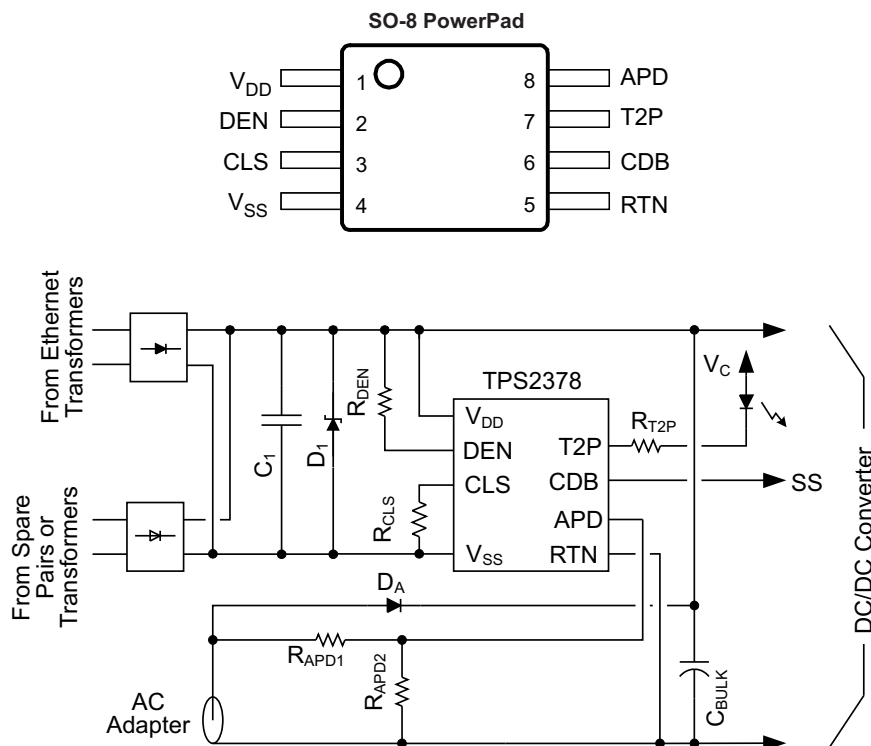

Figure 1. Typical Application
- (1) Stresses beyond those listed under “absolute maximum ratings” may cause permanent damage to the device. These are stress ratings only and functional operation of the device at these or any other conditions beyond those indicated under “recommended operating conditions” is not implied. Exposure to absolute-maximum-rated conditions for extended periods may affect device reliability.
- (2) With I(RTN) = 0
- (3) Do not apply voltages to these pins
- (4) SOA limited to RTN = 80 V at 1.2 A.
- (5) Discharges applied to circuit of Figure 1 between RJ-45, adapter, and output voltage rails per EN61000-4-2, 1999.